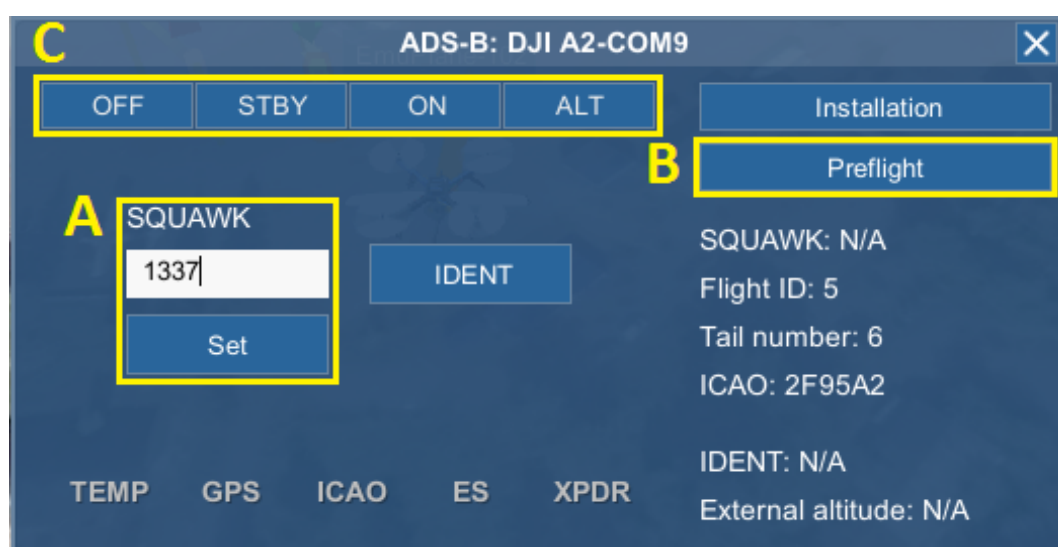

Figure 40 - ADS-B settings menu for reference
- ICAO Address and Aircraft registration/Tail number will remain the same for a specific vehicle in most of the cases. These parameters can be set in Vehicle Parameters section Figure 40).
- SQUAWK parameter can be defined when necessary any time during the flight (Figure 40 - ADS-B settings menu for reference, A).
- Flight ID should be set during preparation for take-off. That is done in the Preflight section (Figure 40 - ADS-B settings menu for reference, B).
Available transponder modes (Figure 40 - ADS-B settings menu for reference, C):